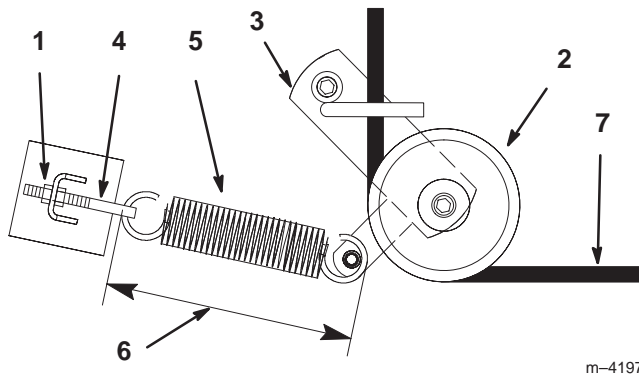

Figure 57
4. Loosen the outer nut on the spring eye bolt (Fig. 57).
6. Remove the spring loaded idler pulley (Fig. 57).
7. Route the new belt through the idler arm (Fig. 57).
9. Tighten the outer nut on the spring eye bolt (Fig. 57).
Note: Check the spring length. The spring should measure 9-3/8 ± 1/8 in. (238 ± 3 mm) when installed. Adjust if it does not (Fig. 57).